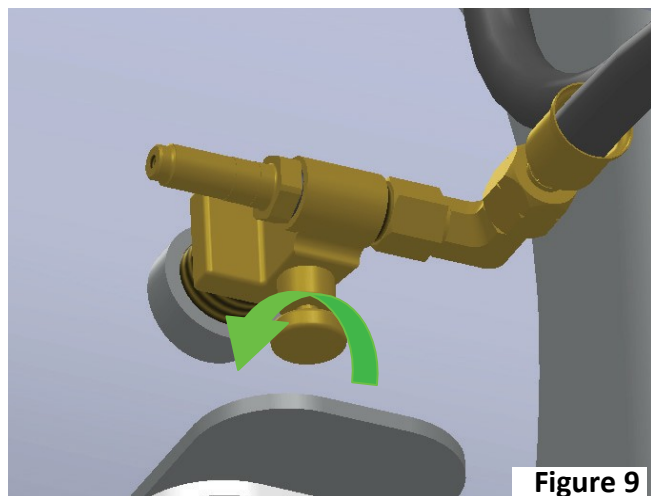

Figure 9
- 8) Slowly open the supply valve counter clockwise. An audible noise from the fill valve on the liquid fuel evacuation tank might be heard at this time. If the receiving tank is empty and has no vapor pressure the liquid service valve's excess flow protection may close, stopping or decreasing the flow. The supply valve on the LPI® vehicle tank is equipped with excess flow protection and will only allow the flow of approximately 2.4 G.P.M. (Gallons Per Minute). If the flow exceeds this the excess flow will close and the valve will need to be closed and reopened slowly to reset the excess flow and restart the fuel transfer process. **Figure 9**